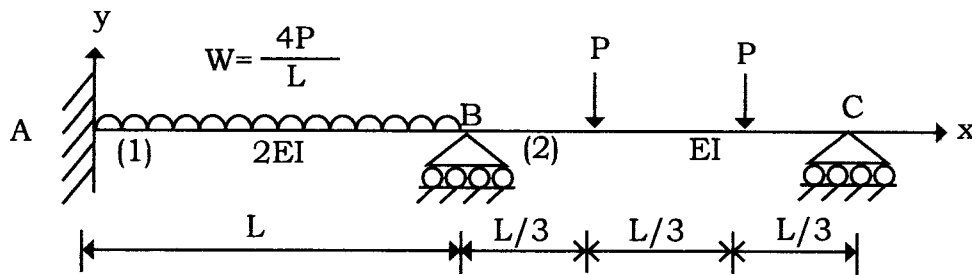

Figure 3.1
- Q3.** (a) The two span continuous beam shown in Figure 3.1 is subjected to a uniform load W (equal to $4P/L$) in span AB and two concentrated forces P in span BC. Both members have the same length L , but the flexural rigidity of member AB is twice that of member BC. **15**